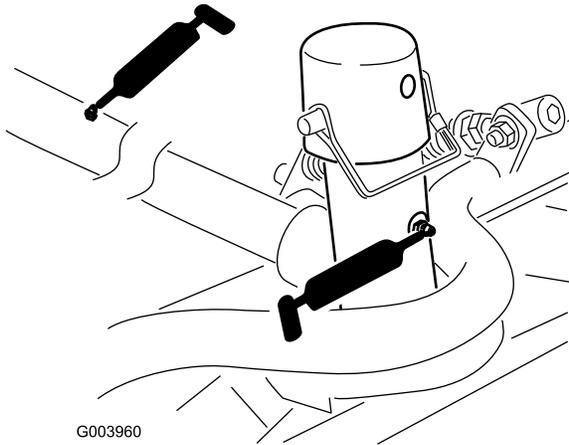

Figure 45
- Cutting unit carrier frame and pivot (2 each) (Figure 45)